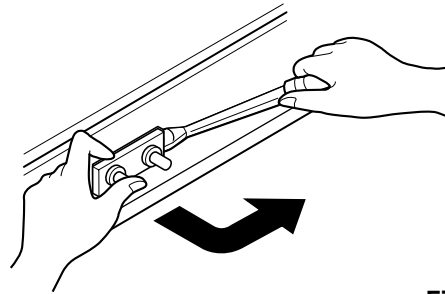

Figure 9
1. To remove the door switch, pull it out with a '—' type driver as shown in (figure 9).